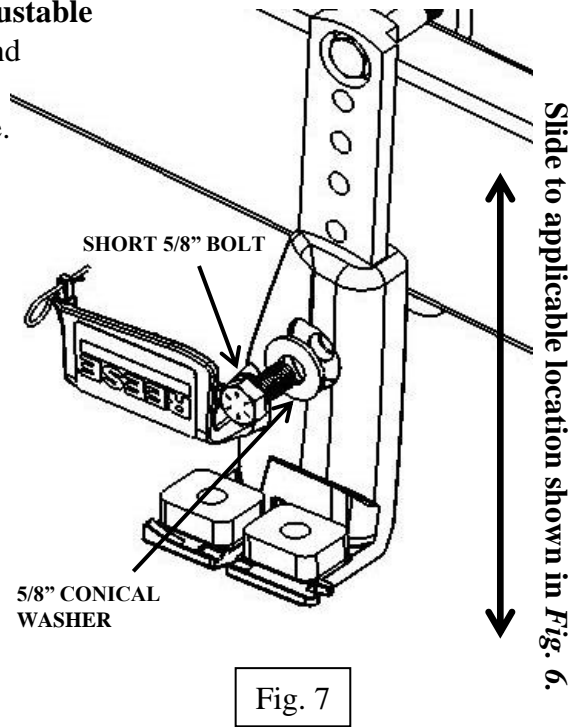

Fig. 7
10. Insert the short 5/8" bolt through a conical washer, **Adjustable Frame Bracket** mounting hole and into the **T-Bar**. Hand tighten the bolt. (See Fig. 7)